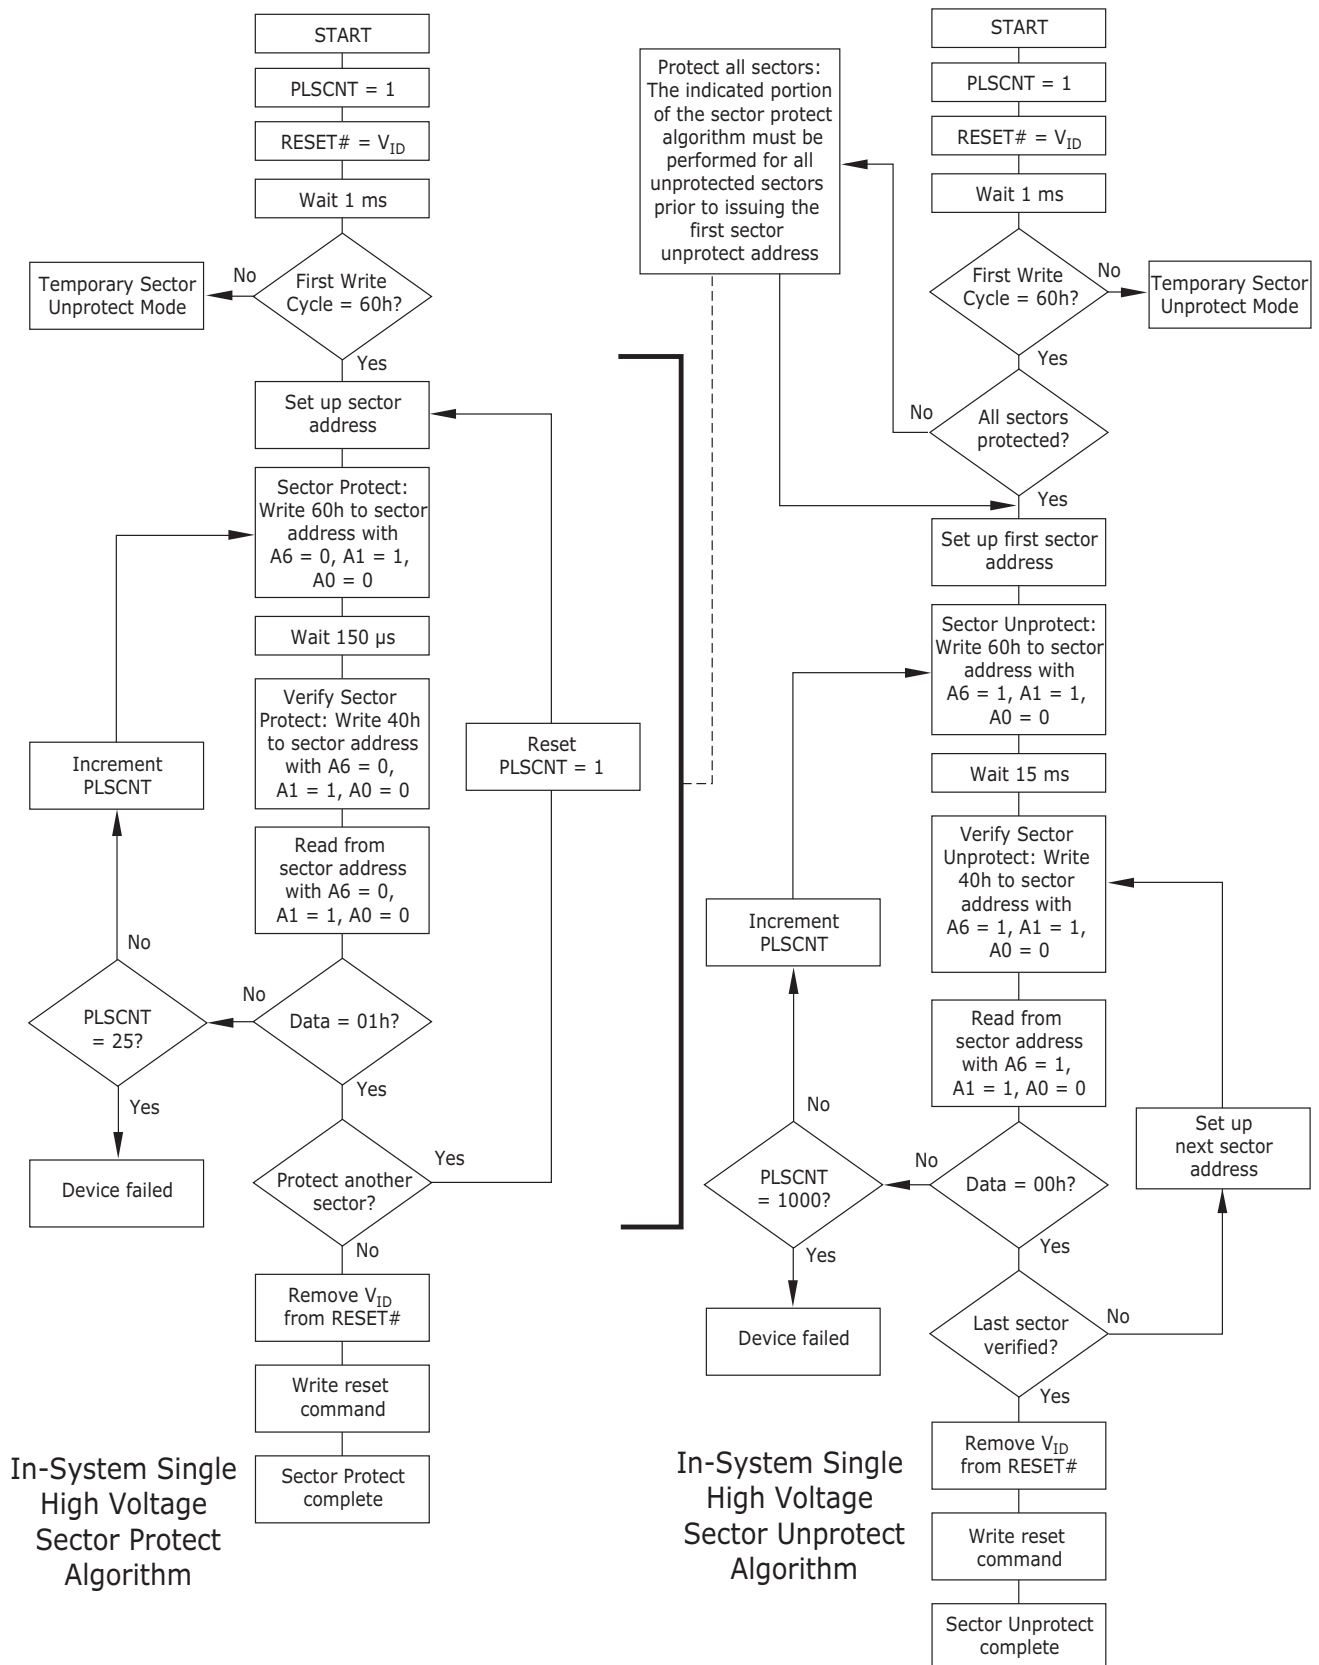

Figure 2. In-System Single High Voltage Sector Protect/Unprotect Algorithms
Sector protection and unprotection requires V_{ID} on the RESET# pin only, and can be implemented either in-system or via programming equipment. Figure 2 shows the algorithms and Figure 23 shows the timing diagram. This method uses standard microprocessor bus cycle timing. For sector unprotect, all unprotected sectors must first be protected prior to the first sector unprotect write cycle.
- Write the three-cycle Enter SecSi Sector Region command sequence, and then follow the in-system sector protect algorithm as shown in Figure 2, ex-